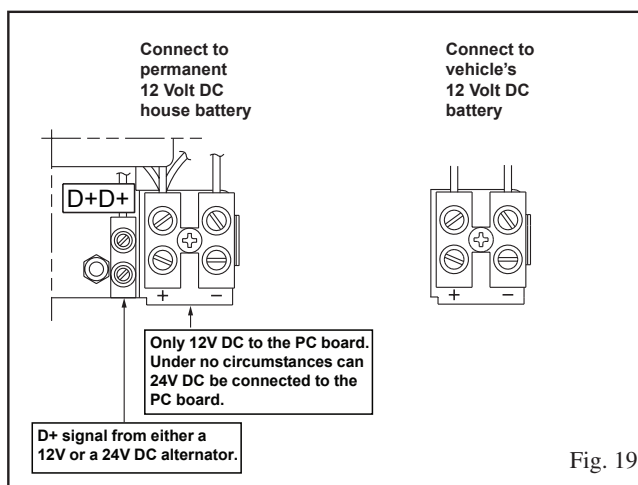

Fig. 19
**RM2355, RM2455 and RM2555:** One terminal is marked **"CONNECT TO PERMANENT 12 VOLT DC HOUSE BATTERY"** and the other **"CONNECT TO VEHICLE 12 VOLT DC BATTERY"**, see Fig. 19.